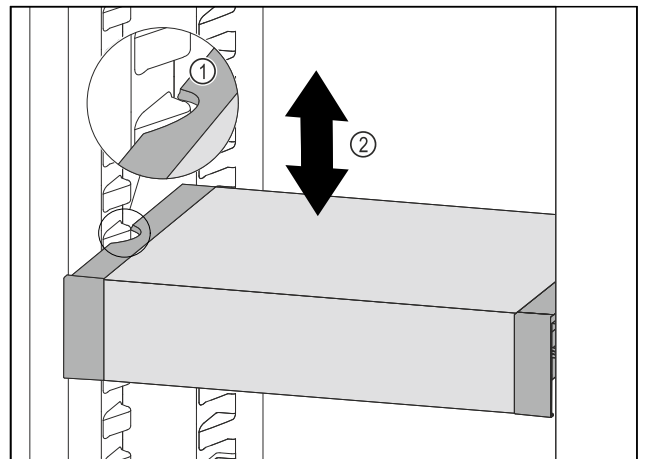

Fig. 104
- Pull VarioSafe forwards until the recesses in the side of the VarioSafe are at the level of the support rib in the refrigerator compartment. *Fig. 104 (1)*
- Move VarioSafe up or down in the refrigerator compartment until the desired height is reached. *Fig. 104 (2)*